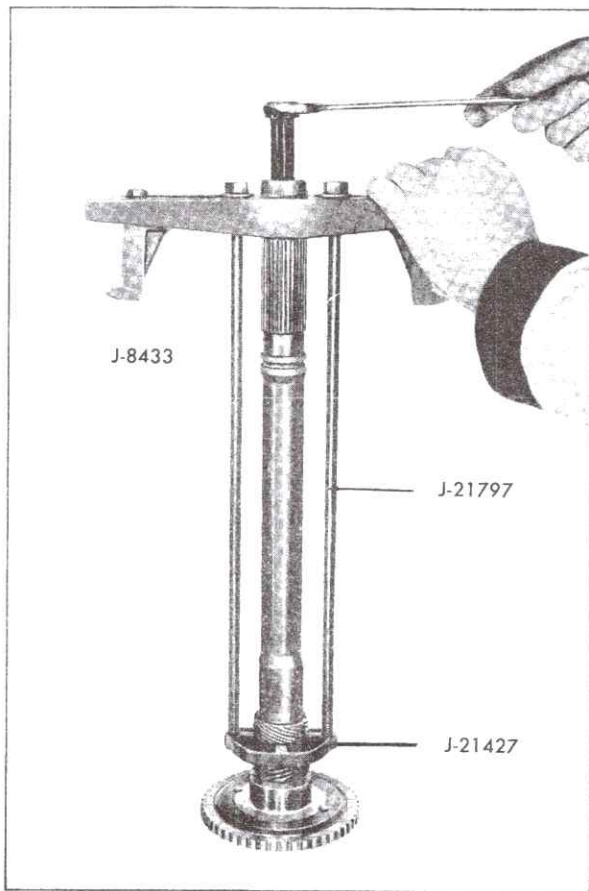

Fig. 7-78 Removing Speedometer Drive Gear
2. Tighten bolt on Pulley Puller, Fig. 7-78, until gear is free on shaft. Remove tools and gear from shaft.